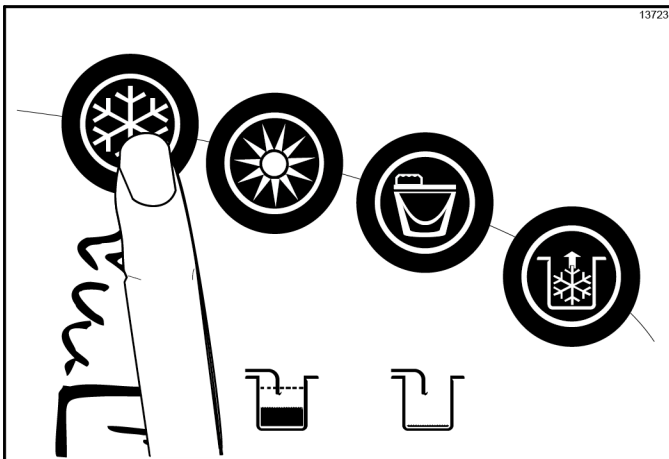

Figure 6-54
4. When ready to resume normal operation, press the Auto key . (See Figure 6-54.)